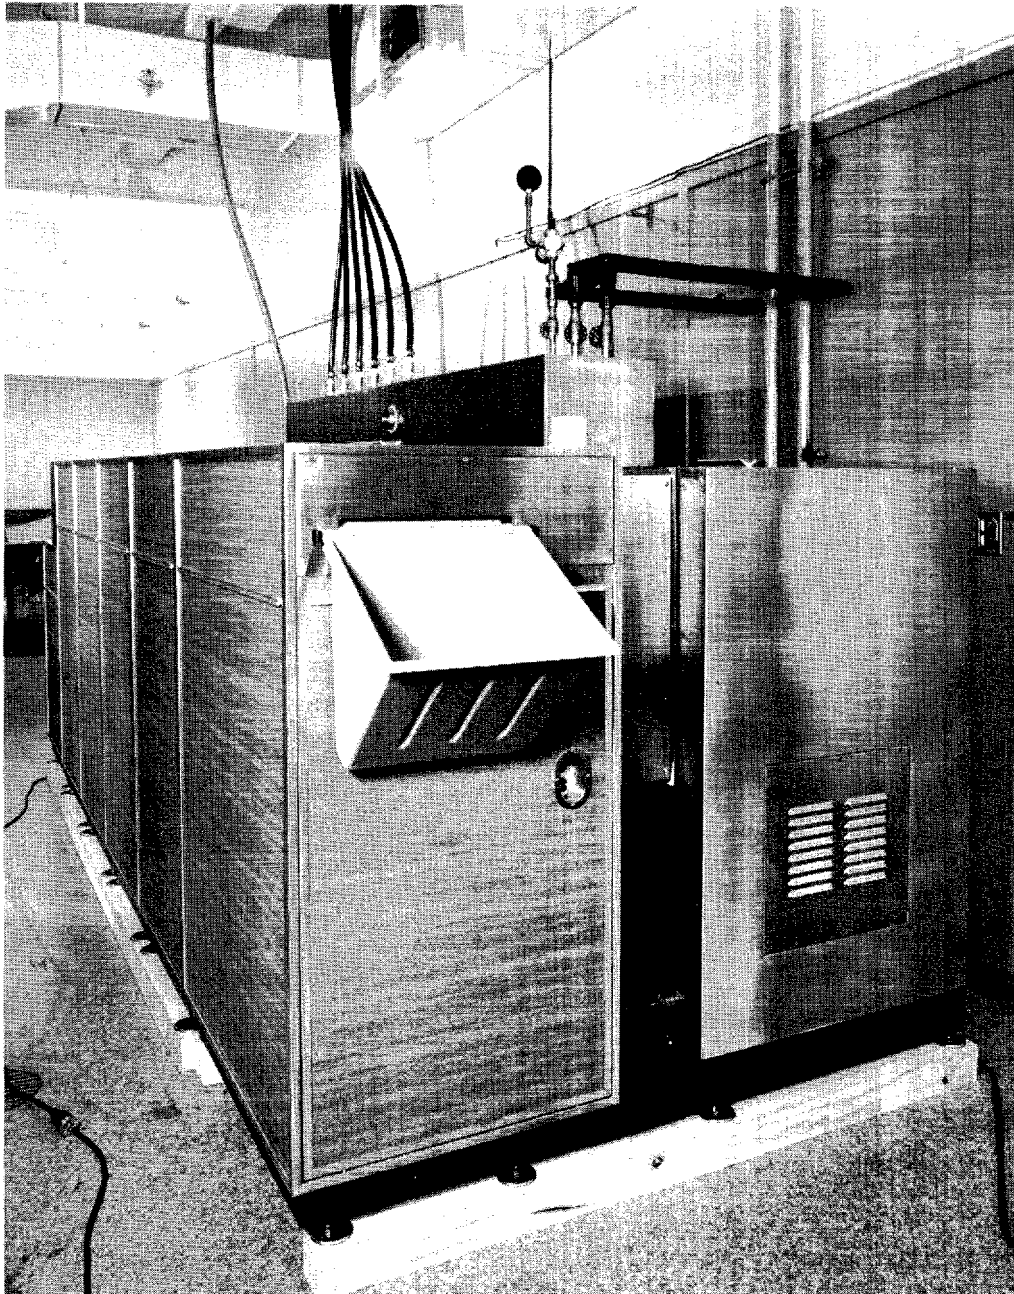

Figure 12. Take-Off End of Processor
1.2.11.1 Air Circulation. Air circulation through the dryer is provided by a blower installed in a cabinet behind the dryer cabinet. See Figure 12. A 1 1/2 hp motor drives the blower fan via pulleys and a drive belt at one of four speeds as selected by the BLOWER SELECTOR control (see item b., Section 1.2.3, Electrical Control Panel); i.e., at 600, 900, 1200, or 1800 rpm.